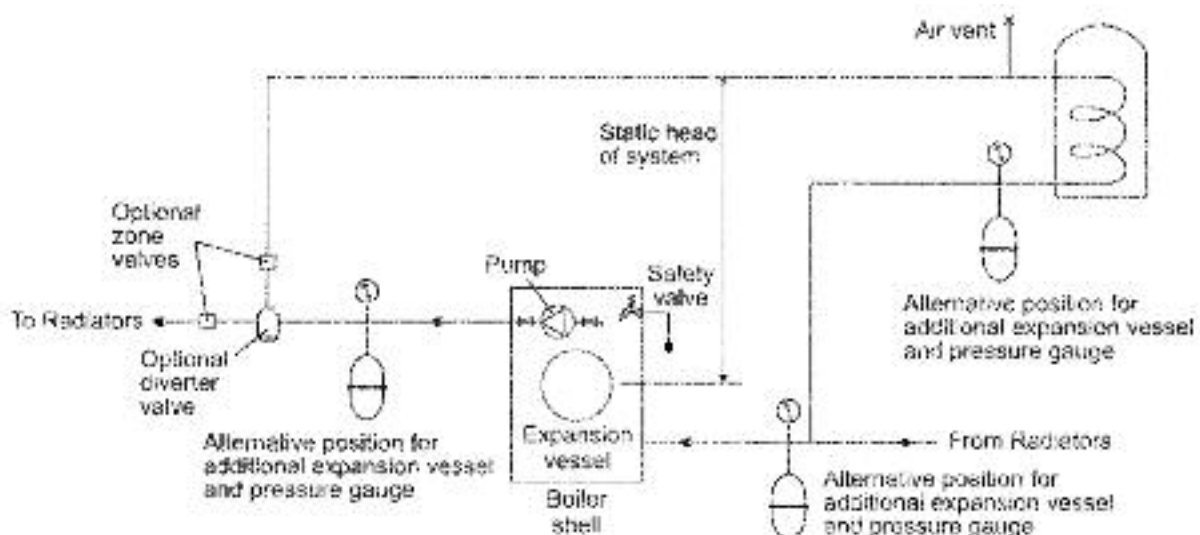

Fig. 14 - Sealed system
3.12.3 Kitchen/Utility sealed system - (See Fig. 14)
- 4 The system design pressure (cold) should be between 0.5 and 1.0 bar. This pressure is equivalent to the maximum static head (see Fig. 14) in bar + 0.3 (1 bar = 10.2 metres of water).